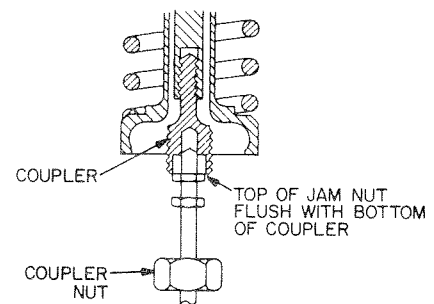

Fig. 4.14
15. With the stem all the way up, screw the top jam nut up so that the top of the nut is flush with the bottom of the coupler (see Fig. 4.14).